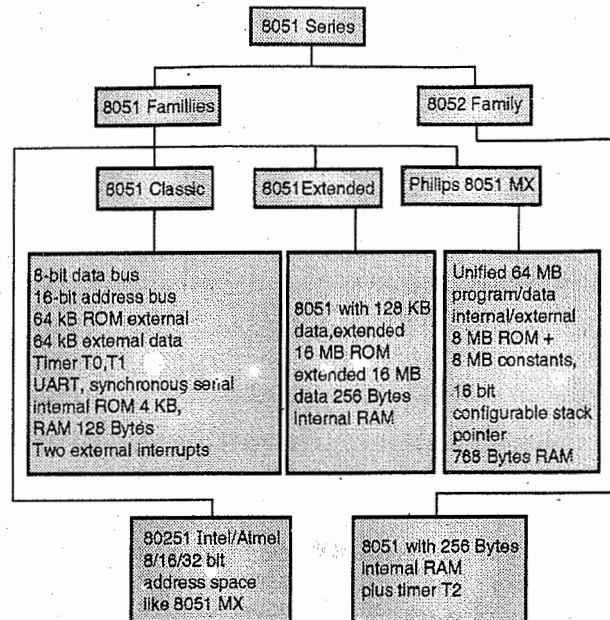

Fig. 1.13.1 : Families of 8051 series
- Fig. 1.13.1 shows the families of 8051 series of microcontrollers.